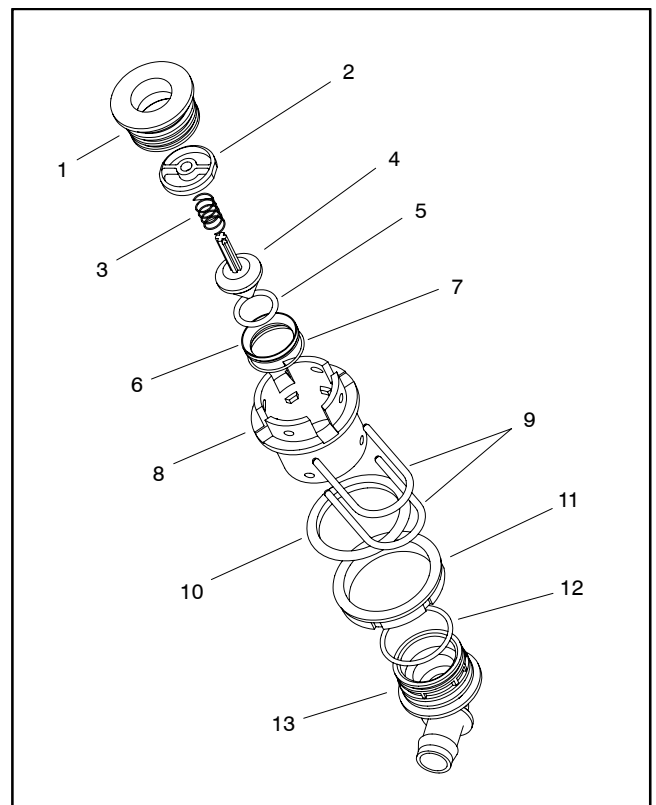

Figure 40
6. Disassemble drain assembly using Figure 40 as a guide.